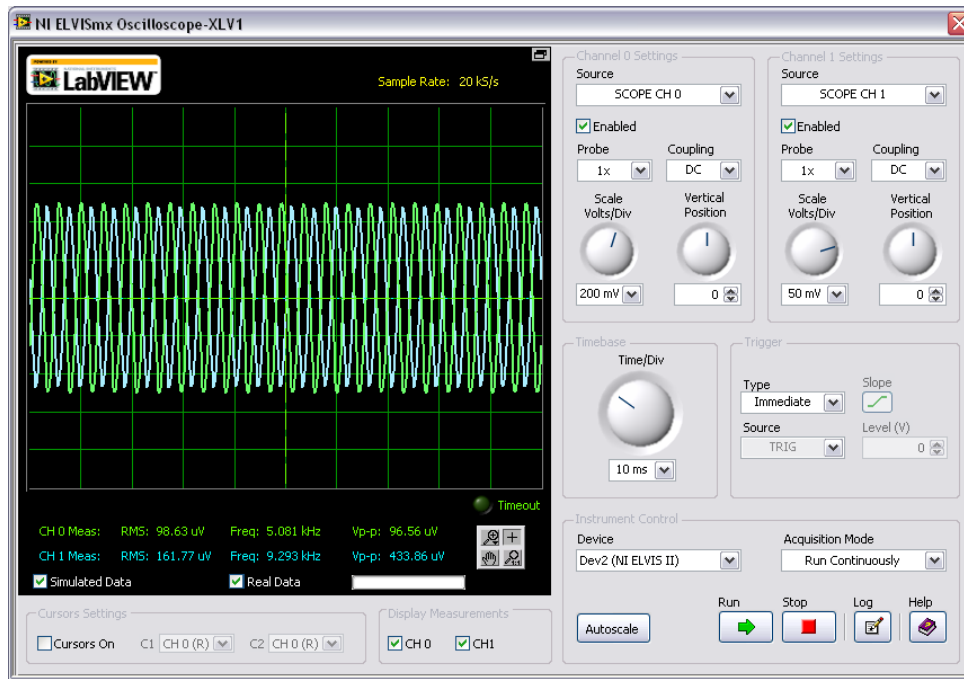

Figure E3-12. ELVISmx Oscilloscope Soft Front Panel
- n. Observe the hardware output as well as the simulated output of your circuit overlaid on each other. This allows you to compare the output of your hardware implementation to your schematic design within Multisim. After the device is set to acquire real data from the NI ELVIS II, you should see output similar to the Figure E3-12 below.